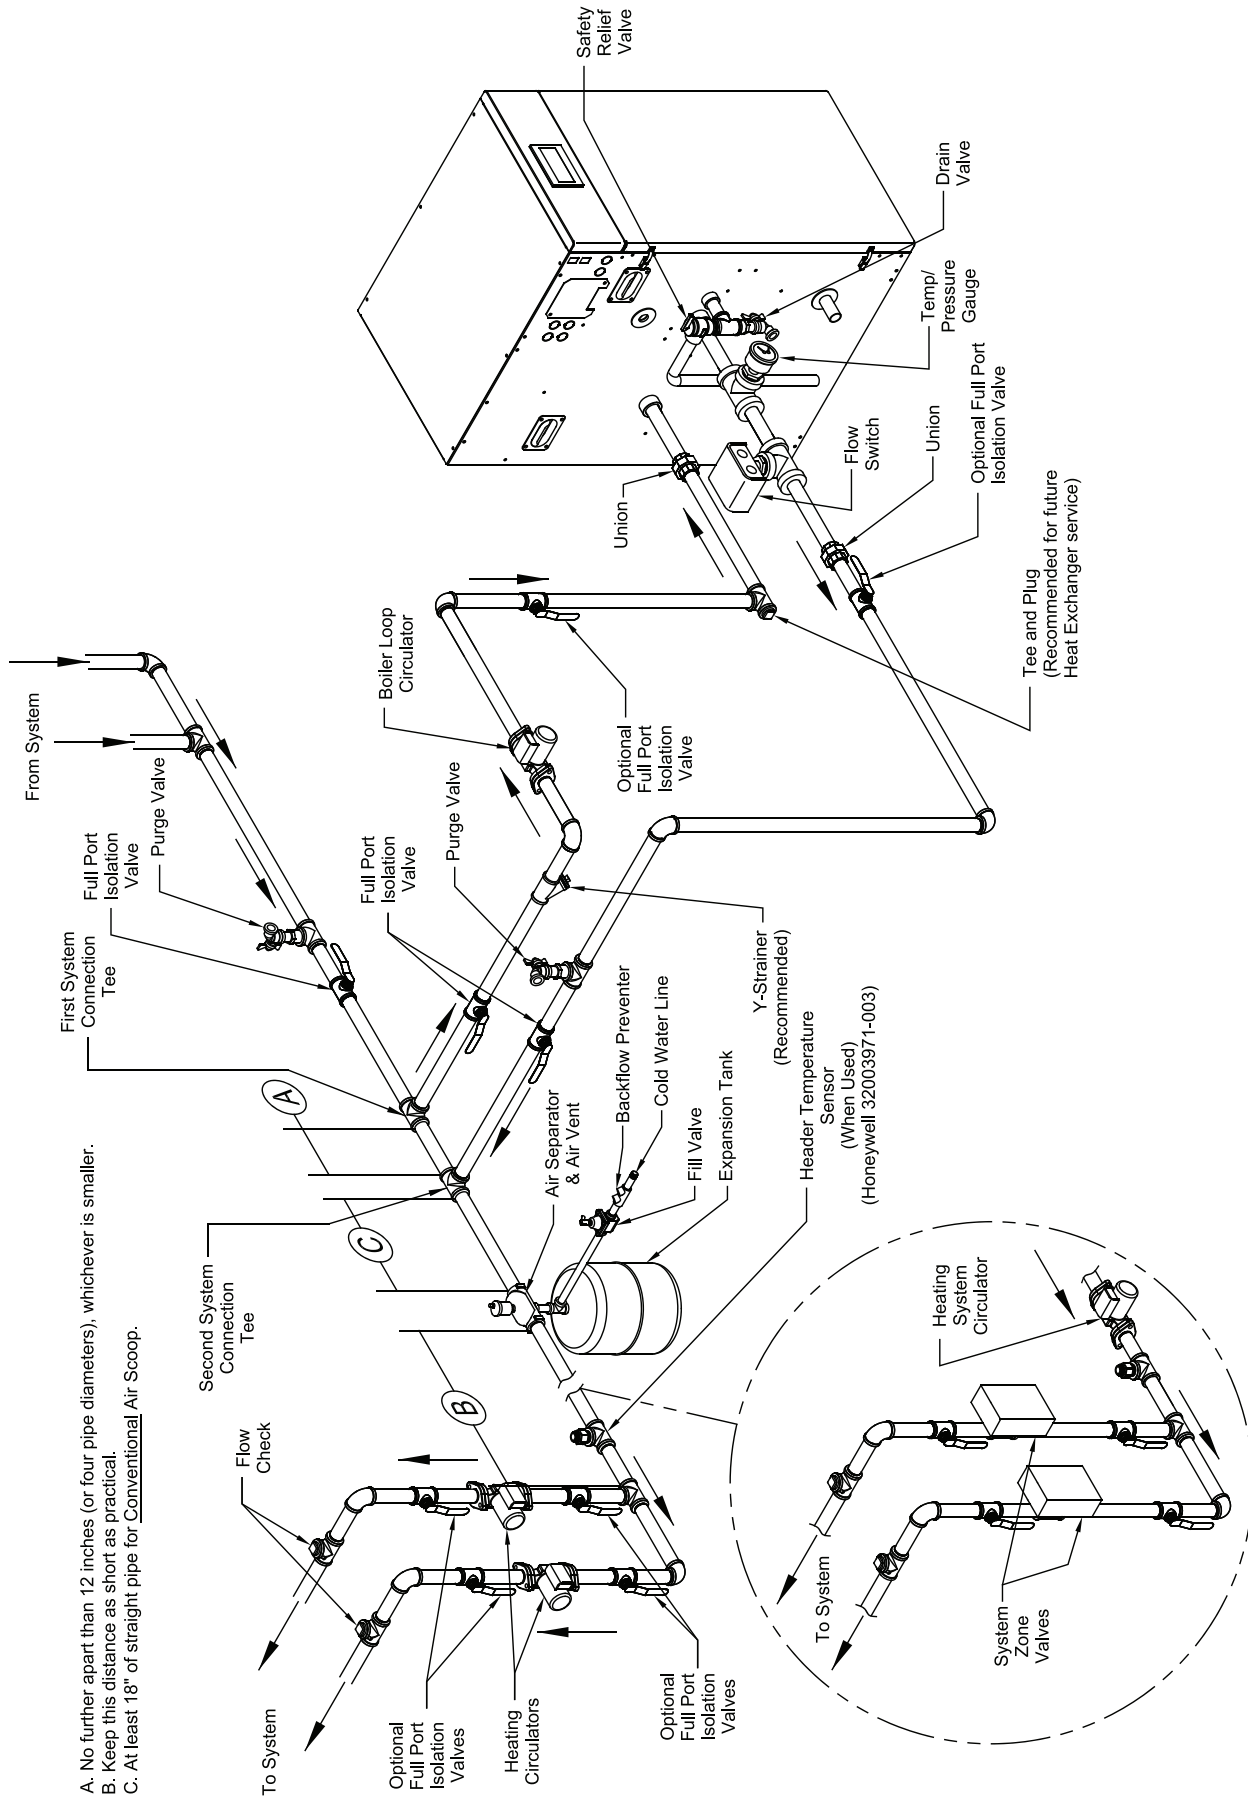

Figure 20: Near Boiler Piping - Heating Only
- i. Space heating only - refer to Tables 14A and 14B and Figure 20 “Near Boiler Piping - Heating Only” as applicable.